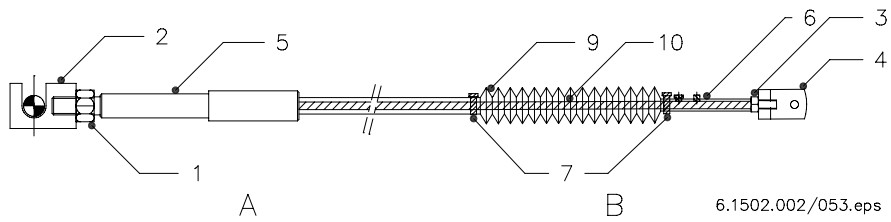

Figure 12 Replacement cable
5. Screw lock nut {1} and fork {2} onto stud {5}. Screw the fork so far onto the stud that it just does not touch the shaft of guide rollers {8}; see Figure 12.
8. At the rear slide the rubber sleeve over the cable and attach stud {6} to the end of the inner cable. This is fixed by means of two Allen screws; see Figure 12.